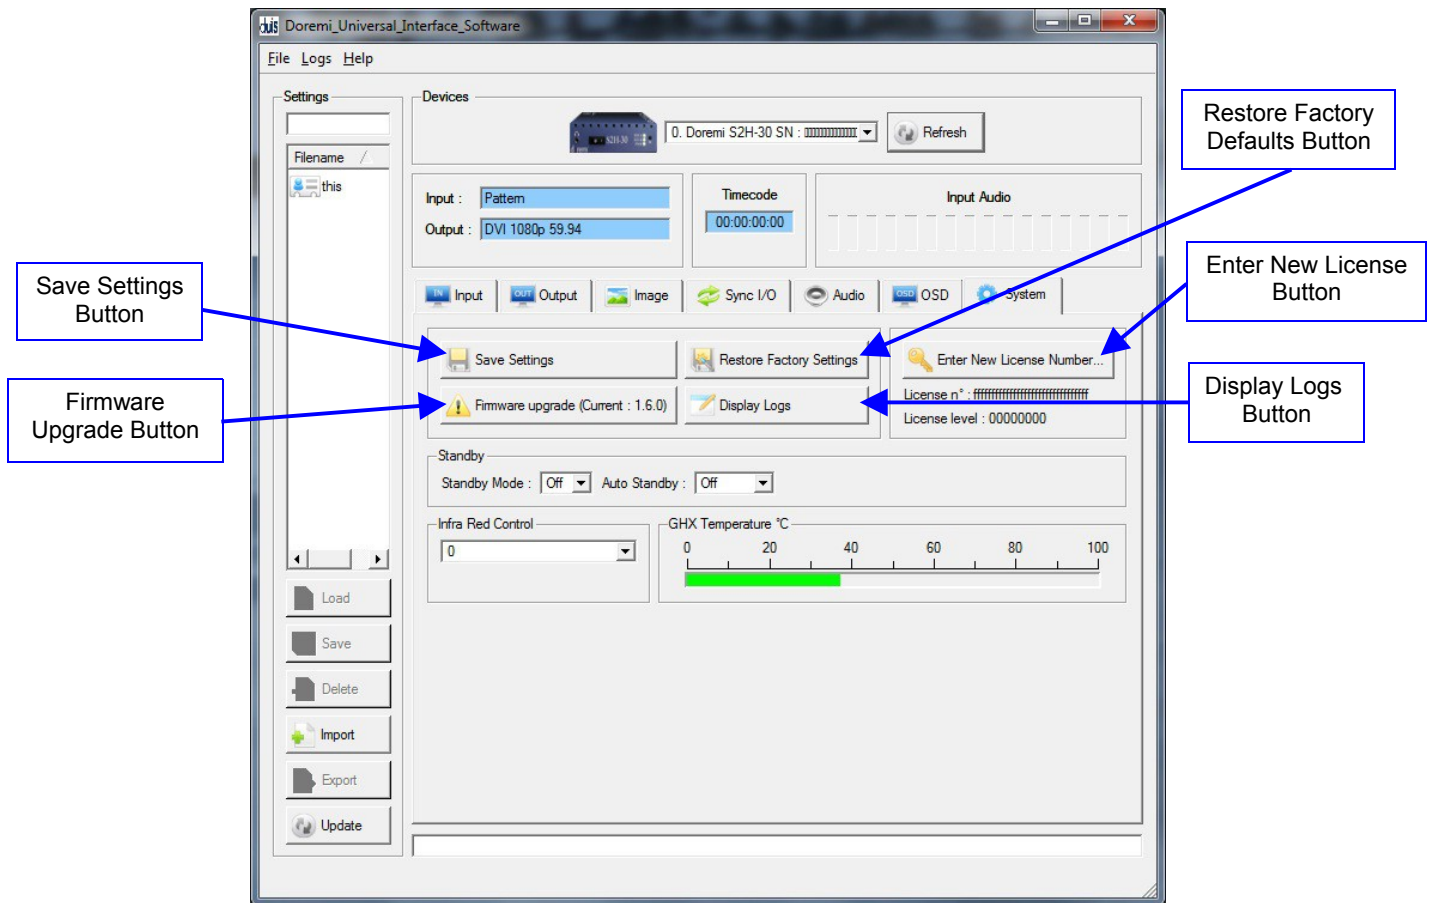

Figure 22: S2H-30 Control Panel System Tab
The System tab is illustrated below in Figure 22.
- To save the current settings to flash, click on the “Save Settings” button (see Figure 22).
- To restore the factory default settings, click on the “Restore Default Settings” button (see Figure 22).
- To enter a new license number, click on the “Enter New License Number ...” button and type the new license number in the pop-up window (see Figure 22).